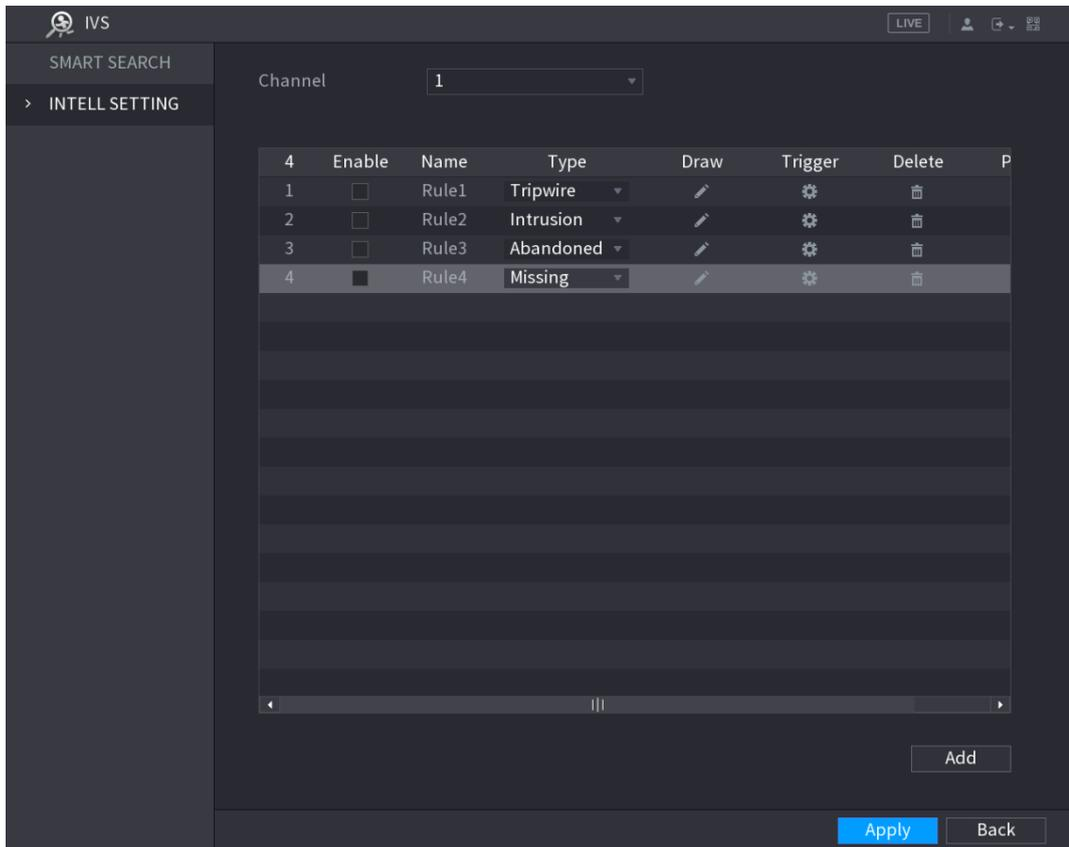

Figure 5-141
**Step 1** On the rule line that you added, in the **Type** list, select **Missing**. See Figure 5-141.